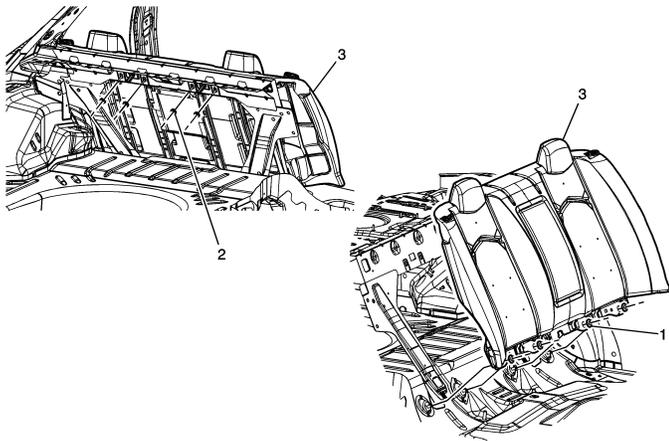

Fig. 1 Rear seat back cushion removal. Sedan
4. **On sedan models**, remove rear seat back cushion, **Fig. 1**.
11. **On sedan models**, install rear seat back cushion, **Fig. 1**.